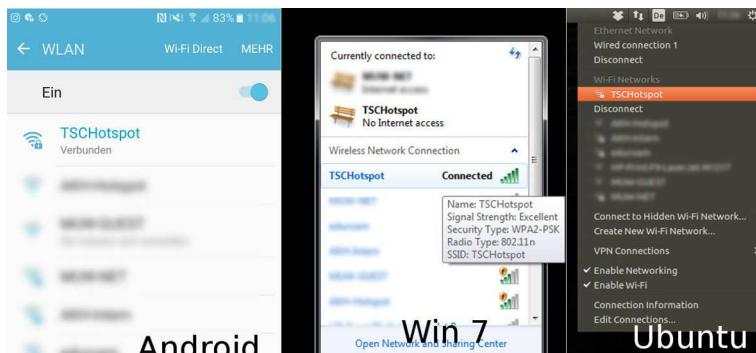

Figure 24: Various views of the autonomous **TSCHotspot** WLAN access point spawn by TSC.
- Select **TSCHotspot** as your WLAN access point (see also Sect. 5 and Fig. 24).
In addition, TSC also supports LX200 operation via WLAN – remember that TSC can open its own access point, and external devices such as laptops and tablets can connect to it. The default name for this autonomous WLAN access point is **TSCHotspot**. Fig 24 shows the looks of accessing TSC.